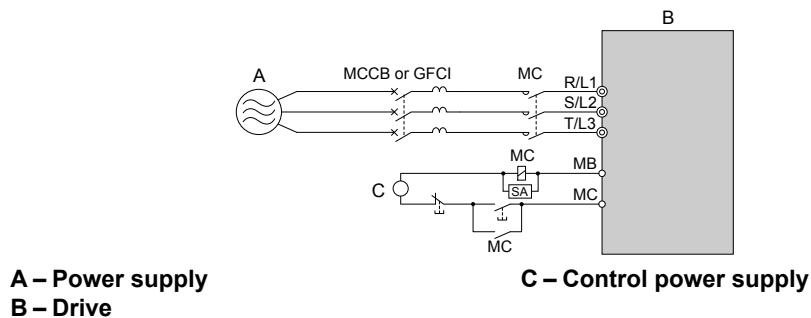

Figure 7.9 Power Supply Interrupt Wiring (Example)
- If several drives are connected to one MCCB or GFCI that is shared with other equipment, use a sequence that shuts the power OFF when errors are output by using magnetic contactor (MC) as shown in Figure 7.9.